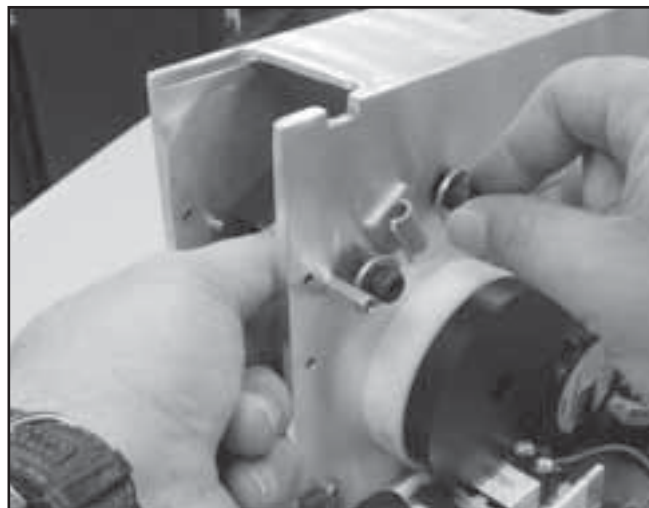

FIGURE 6.24
1. Place Load Cell Assembly into Chassis and hold in position while hand starting the Load Cell Mounting Screws and Flat Washers. See Figure 6.24.